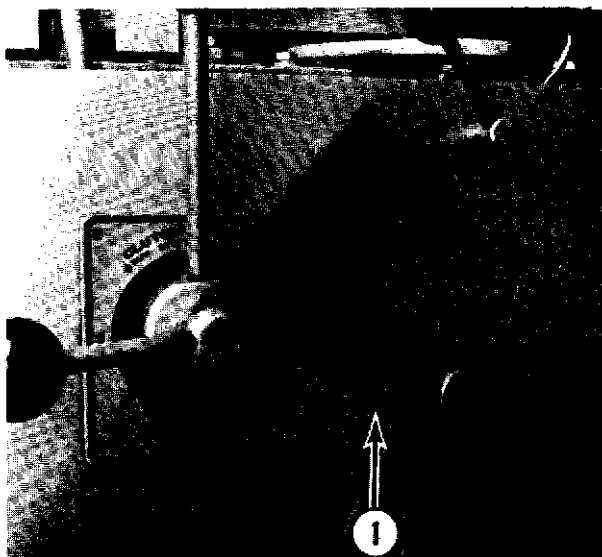
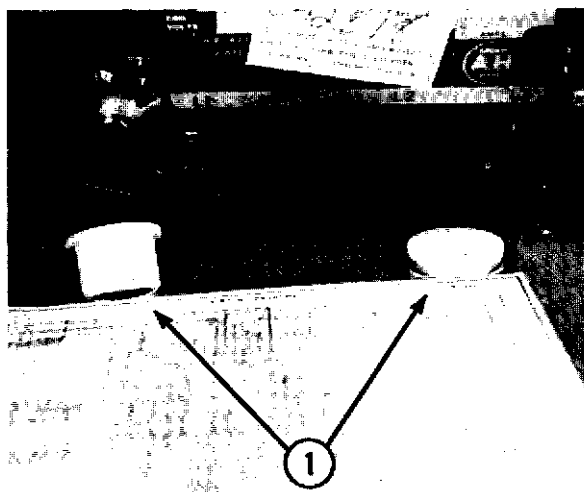

Fig. 8-6
Fig. 8-7
- A. Remove the switch plate (1, Fig. 8-6). Do not lose the push buttons (1, Fig. 8-7).